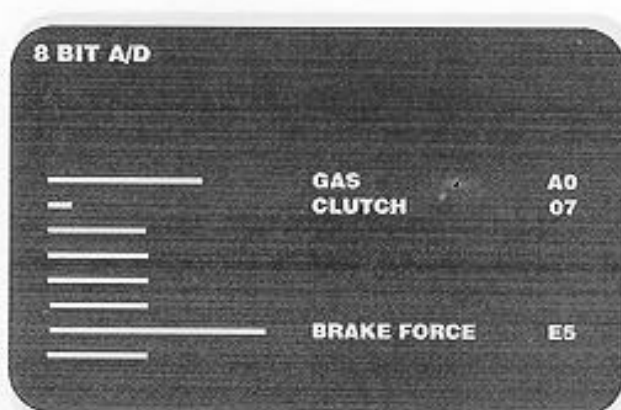

Figure 2-19 Pots: 8-Bit Screen
- The *Pots: 8 Bit* screen has the same information as the *Control Inputs* screen. This screen appears in Figure 2-19. It shows the voltage inputs from the control potentiometers to the A/D converter circuits. As you use a control, the line on the screen changes as the voltage input changes. If the line does not change, see the information about that control in Chapter 3.